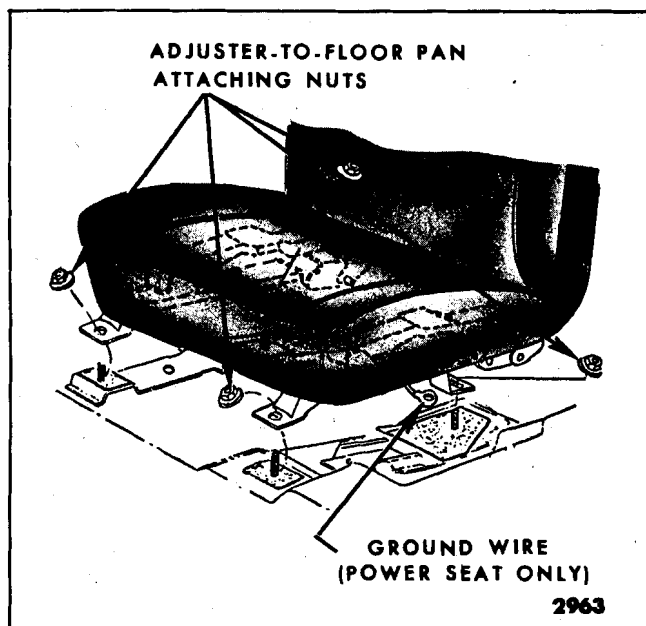

Fig. 14-37-Bucket Seat Floor Pan Attachment - "A and X" Styles
2. Turn back floor carpeting sufficiently to expose seat adjuster -to-floor pan attaching nuts or bolts (Figs. 14-37 and 14-14).
3. Operate seat to full rearward position. Remove adjuster-to-floor pan front attaching bolts or nuts (Figs. 14-37, 14-38 and 14-39). Operate seat to full forward position. Remove adjuster-to-floor pan rear attaching bolts or nuts. On seats with electric seat back locks disconnect lock solenoid wire from feed wire connector under rear of seat. Remove seat assembly from body.